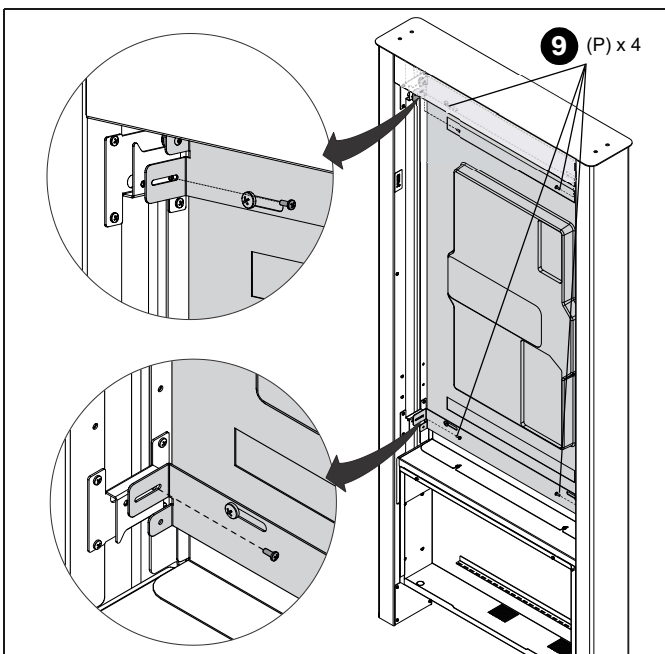

Figure 10
10. Install the upper and lower interface brackets on the monitor to the interface plates on the kiosk frame using four 10-24 x 1/2" screws (P). (See Figure 10)